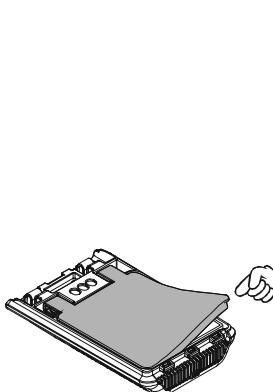

Figure 1
- Install the supplied Belt Clip to the **FNB-101LI** Battery Pack using the supplied two screws (**Figure 1**). *Use only the screws included with the Belt Clip to mount the Belt Clip to the back of the Battery Pack!*
1. Lift up the lower right corner of the rubber cover, and then open the cover (Figure 1).